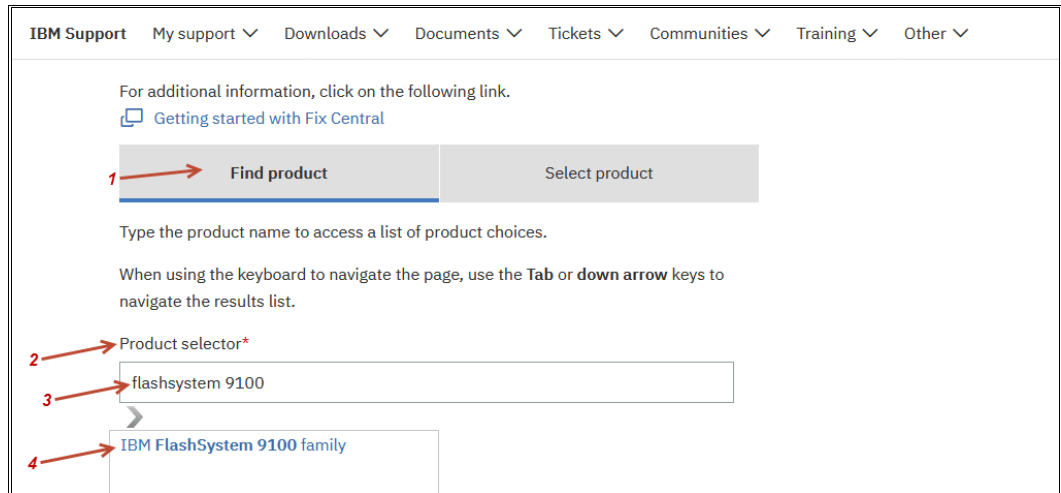

Figure 8-26 IBM Fix Central Support Portal
1. After signing in with your IBMid, a page opens to the Support Portal (Figure 8-26 on page 335). In the **Find product (1)** tab, go to **Product selector (2)** field and start typing FlashSystem 9100 **(3)**. Select **IBM FlashSystem 9100 family (4)**. The IBM FlashSystem 9100 specific information is displayed.